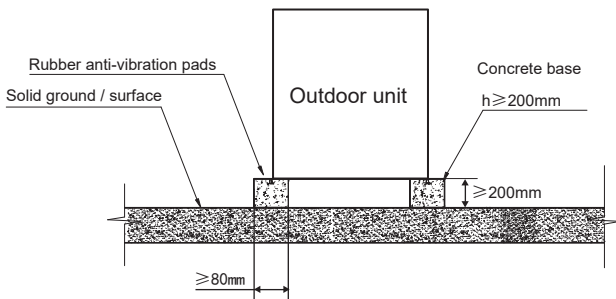

Fig. 6-5 Front view of base structure
- 4) A typical concrete base design is shown in Fig. 6-5. A typical concrete base specification is 1 part cement, 2 parts sand and 4 parts crushed stone with steel reinforcing bar. The edges of the base should be chamfered.